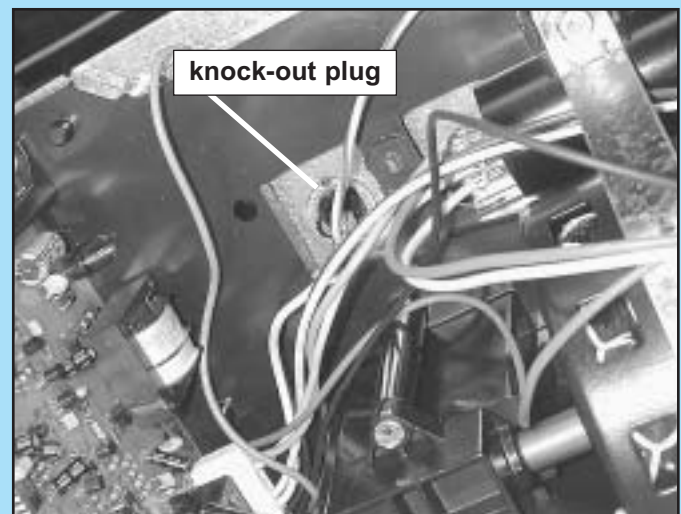

FIG. 6-2 Knock-out plug.
- Remove 7/8" knockout plug (Fig. 6-2).